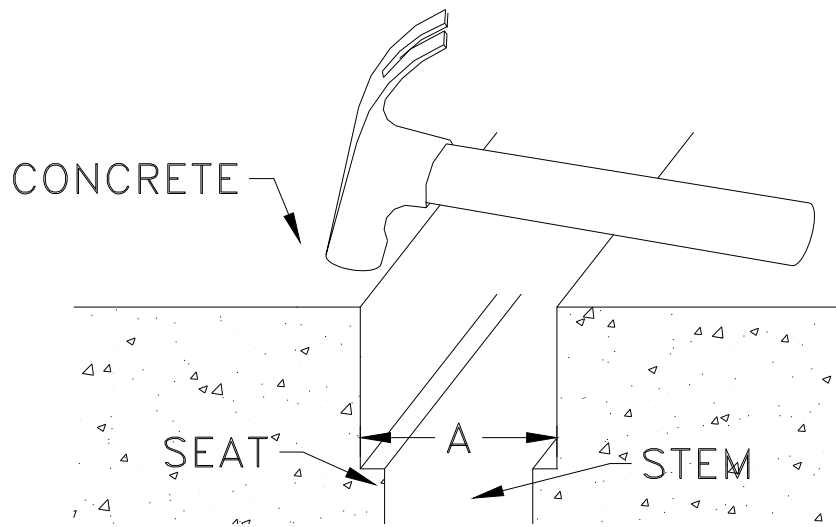

Figure 2
- E. Concrete adjacent to the expansion joint system must be sound. This should be confirmed by tapping these areas with a hammer (see Figure 2). If a hollow sound is heard or if the concrete cracks, crumbles or loosens, the unsound concrete must be removed and repaired with a structural repair mortar.